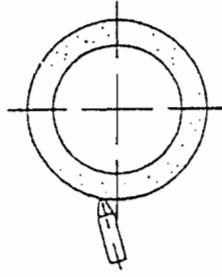

Fig 16-2
2. When the diamond is being worn by grinding, turn it over to preserve its sharpness (see figure 16-2).